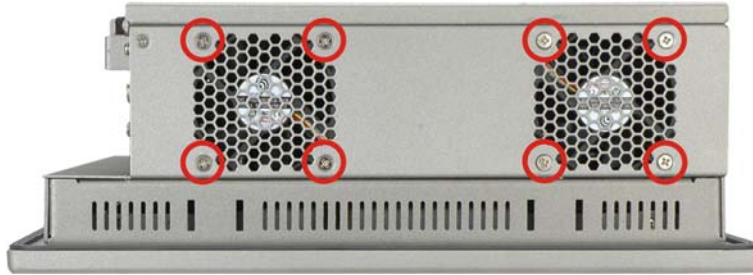

Figure 4-11: System Cooling Fans Left Panel Retention Screws
Step 3: Remove the system cooling fans retention screws from the left panel (Figure 4-11).